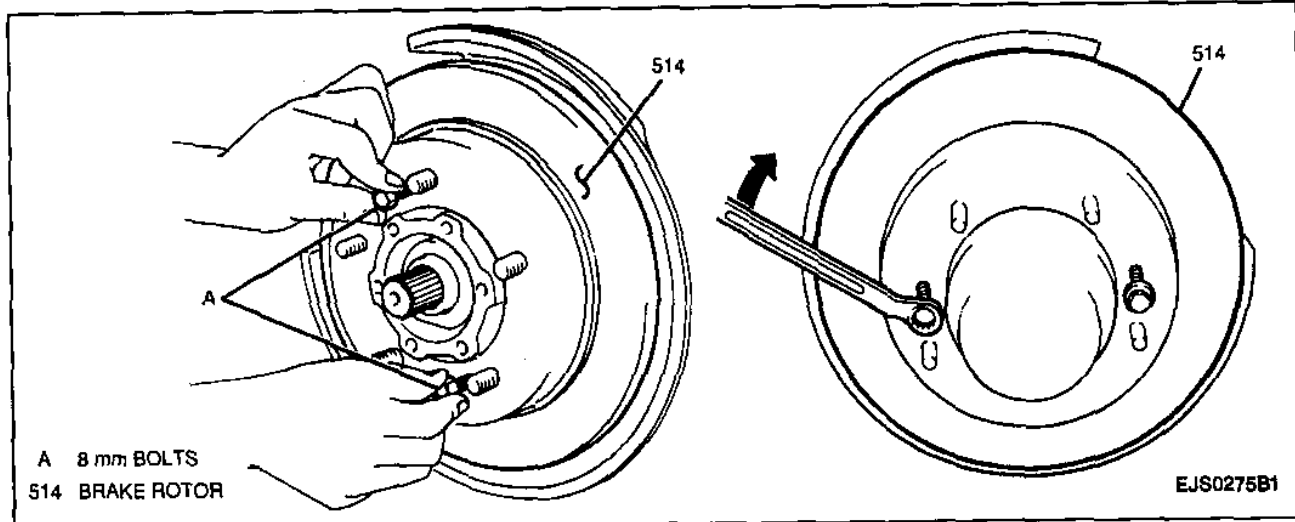

Figure 14—Removing Brake Rotor
3. Brake rotor from wheel hub. If rotor cannot be removed by hand, install two 8 mm bolts into rotor. Tightening the bolts will force rotor off of wheel hub (Figure 14).